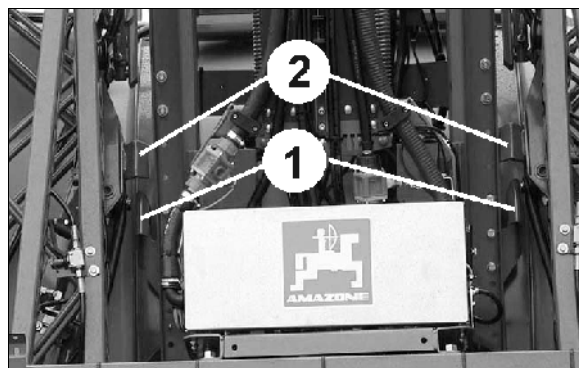

Fig. 65
2. Lift the sprayer booms the height adjustment, until the latches (Fig. 65 /1) release the location pockets (Fig. 65 /2).
Fig. 65 shows the unlocked sprayer booms.